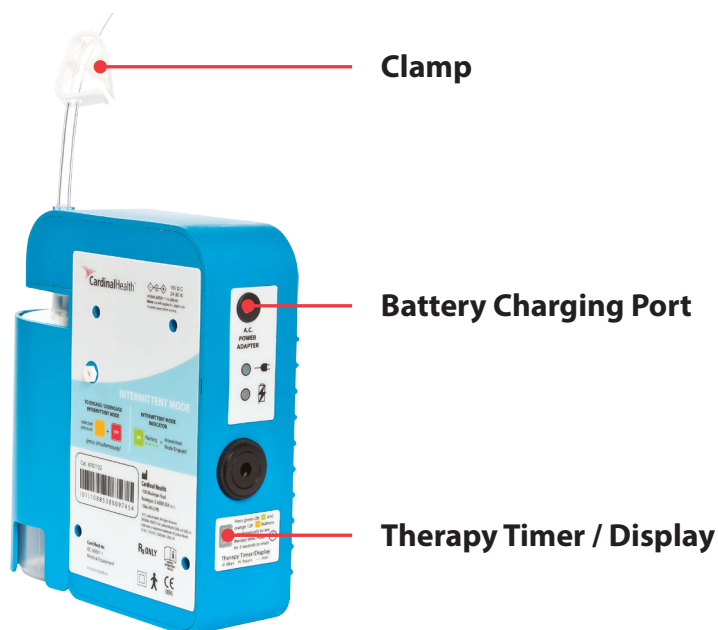

Figure 16
4. Plug the device's A.C. Adapter into a suitable 100-240 VAC, 50-60Hz outlet. Insert the power plug into the Power Connector on the side of the device (**Figure 16**). The Cardinal Health™ SVED® device should only be used with the supplied A.C. Adapter. Use of an incorrectly rated adapter could create a shock hazard for the patient and caregiver.
The Cardinal Health™ SVED® device has an LED Therapy Timer/Display (**Figure 16**) for displaying two types of therapy timers: Total Time accumulated by the device (non-resettable) and patient usage Therapy Time (resettable). The display will use the format: “d: days, H: hours, -: mins” and data will be displayed sequentially on the display. When the device is first turned ON, the Total Time is displayed. This timer cannot be reset and accumulates time as the device is used. After the device has displayed the Total Time and at any time the device is operating, pressing the ON  button and 120 mmHg  buttons simultaneously will initiate the display of Therapy Time. To reset the Therapy Time, press and hold the ON  button and 120 mmHg  button until the device beeps three times and the Therapy Time display indicates “d: 0, H: 00, -: 00”.